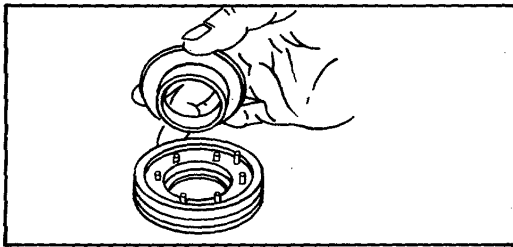

Figure 21.
2. Install the seal springs into aluminum seal retainer. Install new O-rings dry on stationary steel part of seal and place seal into retainer so notch is located in pin in retainer (refer to Fig. 21).
3. Install large O-ring on O.D. of retainer (refer to Fig. 21).